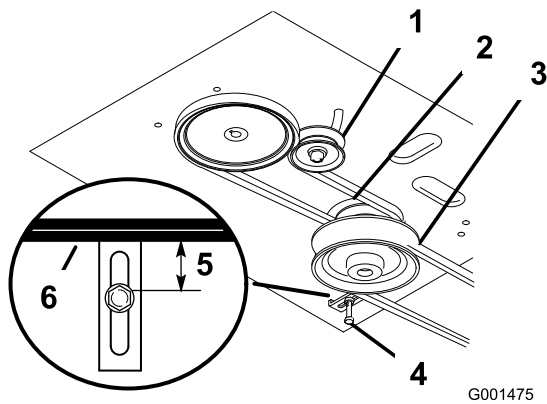

Figure 37
4. Remove the mower belt (Figure 37).
- Loosen the pivot bolt enough to slide the idler pulley in the slot and remove the traction belt from the engine and the drive pulleys (Figure 37).
- Install the new drive belt around the engine and the drive pulleys (Figure 37).
- Slide the idler pulley in the engine frame to tension the traction belt (Figure 37).
- Install the mower belt (Figure 37).
- Check the belt guide under the engine frame for the proper adjustment (Figure 37).